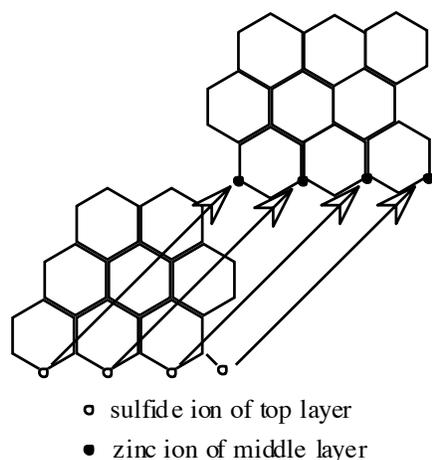

Fig. 6 Placing the top layer over the middle layer.
- Now place each one of the sulfide ions of the top layer over a tube on a zinc ion of the middle layer, and push to form a bond. Fig. 6 below shows how to line up the top layer over the middle layer.